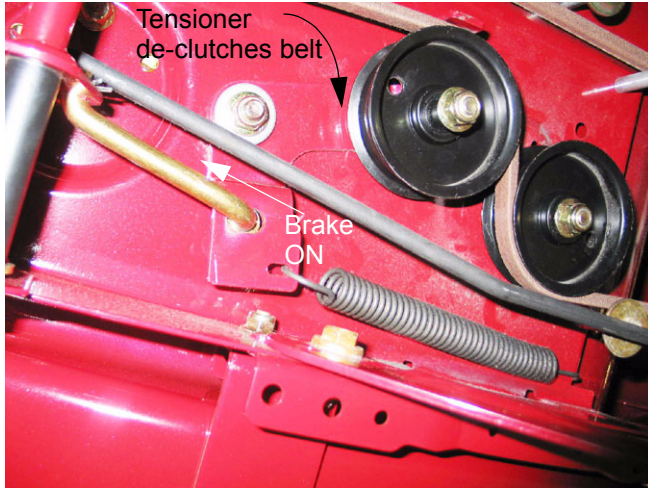

Figure 9.1
9.1. Application of the clutch / brake pulls on the rod that actuates the cam arm on the brake caliper, and pivots the tension pulley bracket away from the belt, creating slack. See Figure 9.1.